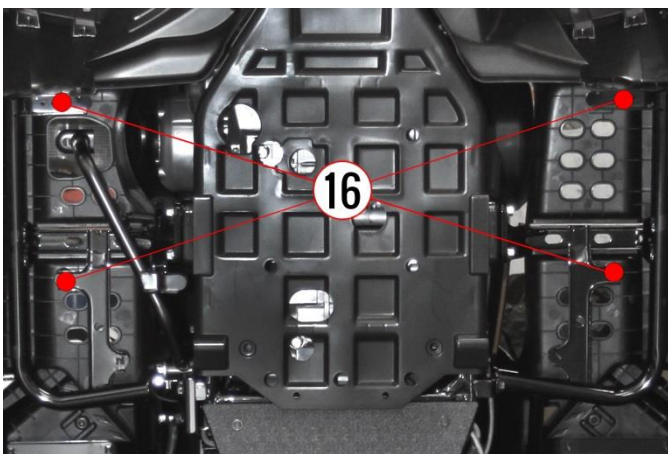

Fig. 1
1. Remove the original plastic chassis covers, and front and rear plastic A-arms guards. Also remove four outermost screws (16) in each footwell - Fig. 1. Do not remove plastic cover (A) from under the front bumper - leave this plastic cover in place (Fig. 2).